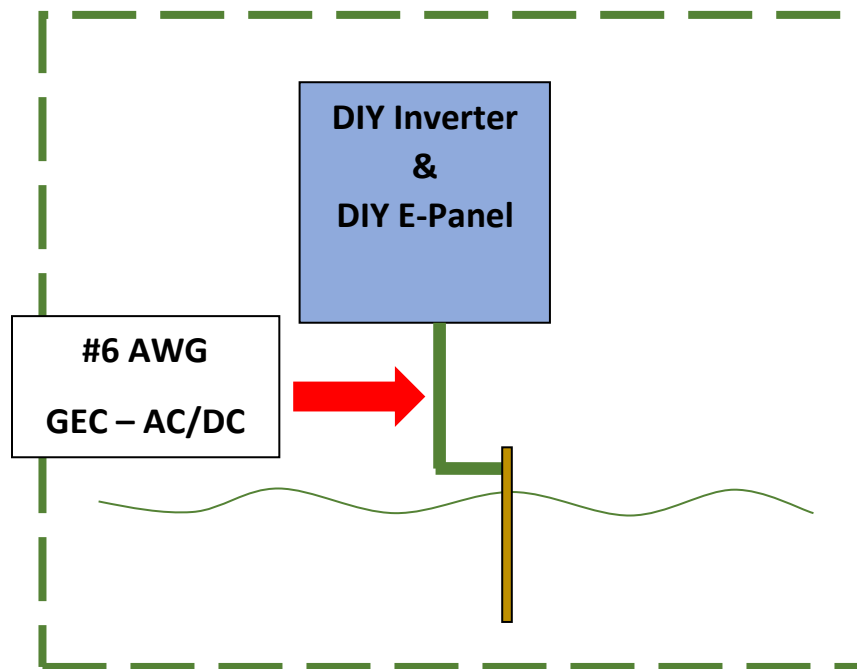

Figure 1
- The easiest grounding installation with the DIY inverter and DIY E-Panel is shown below in **Figure 1**. The reason it is easiest is that the entire system is bonded together at the same ground busbar inside the DIY E-Panel AND there is only one ground rod.
Conductor (GEC). If you wire your new DIY E-Panel using either configuration as shown below in **Figures 1 & 2**, then use **#6 AWG** wire. Simple as that!
Configuration #1 - Using the DIY E-Panel as the AC service panel (**Figure 1**).